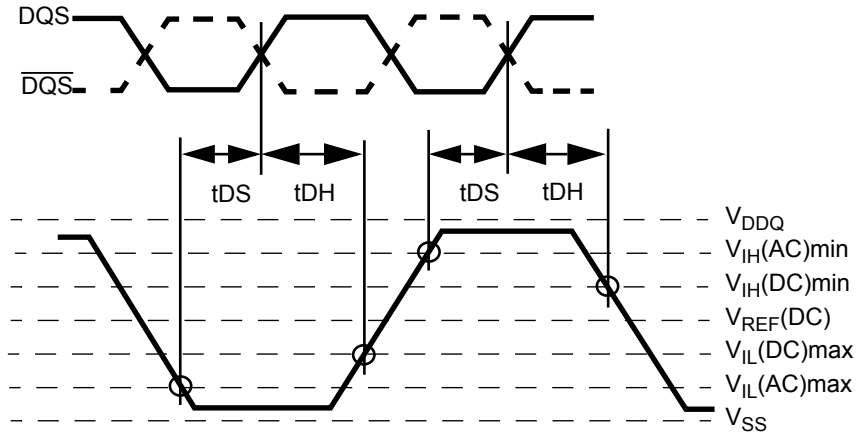

Figure 20. Differential input waveform timing - t_{DS} and t_{DH}
20. Input waveform timing t_{DS} with differential data strobe enabled $MR[\text{bit}10]=0$, is referenced from the input signal crossing at the $V_{IH}(\text{AC})$ level to the differential data strobe crosspoint for a rising signal, and from the input signal crossing at the $V_{IL}(\text{AC})$ level to the differential data strobe crosspoint for a falling signal applied to the device under test. DQS , \overline{DQS} signals must be monotonic between $V_{IL}(\text{DC})_{\text{max}}$ and $V_{IH}(\text{DC})_{\text{min}}$. See Figure 20.
21. Input waveform timing t_{DH} with differential data strobe enabled $MR[\text{bit}10]=0$, is referenced from the differential data strobe crosspoint to the input signal crossing at the $V_{IH}(\text{DC})$ level for a falling signal and from the differential data strobe crosspoint to the input signal crossing at the $V_{IL}(\text{DC})$ level for a rising signal applied to the device under test. DQS , \overline{DQS} signals must be monotonic between $V_{IL}(\text{DC})_{\text{max}}$ and $V_{IH}(\text{DC})_{\text{min}}$. See Figure 20.